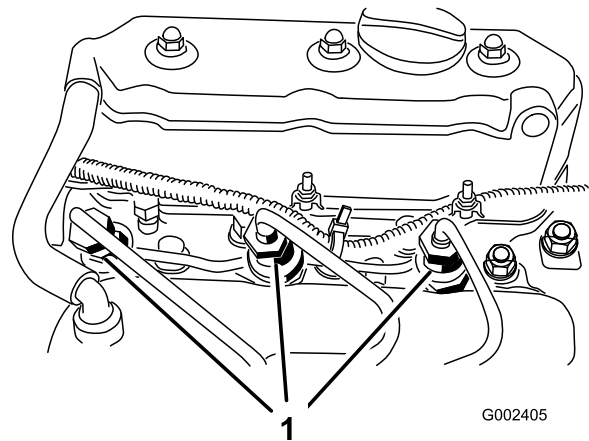

Figure 51
2. Loosen the pipe connection to the No. 1 nozzle and holder assembly (Figure 51).